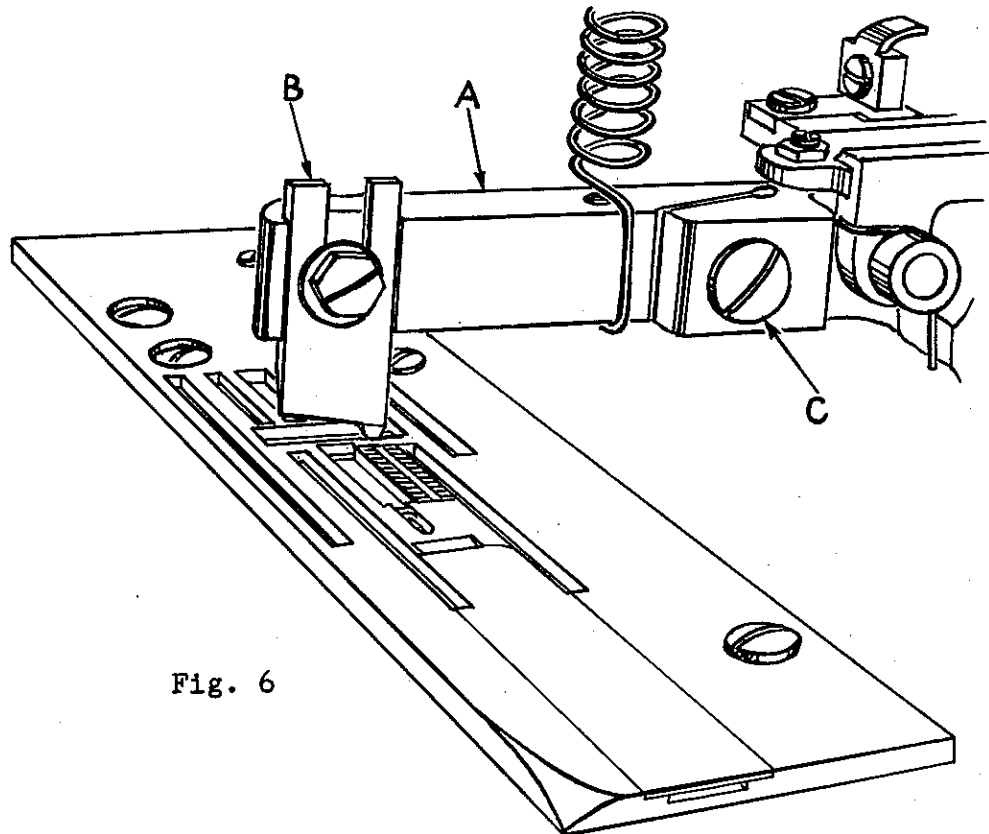
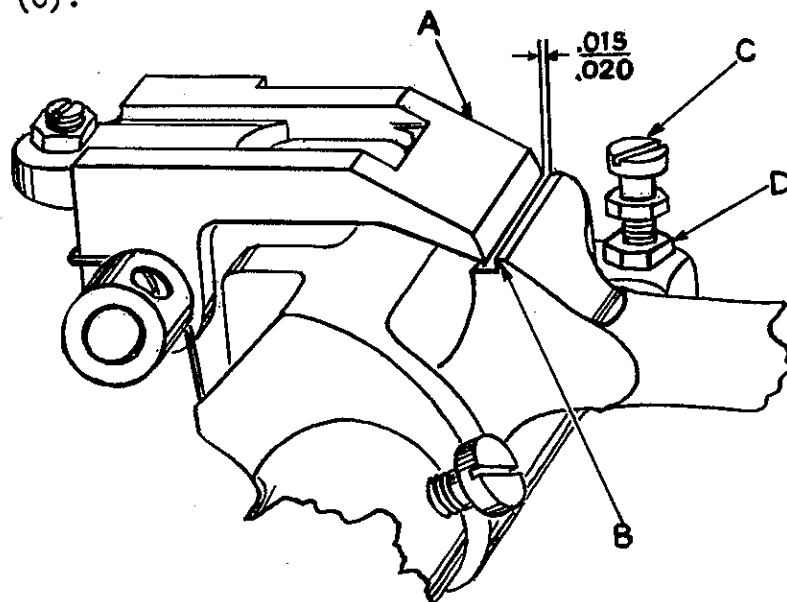

Fig. 6
Fig. 9
The upper tape cutter knife (B, Fig. 6) must be set after the tape cutter knife bar (A) has been correctly located. The knife should then be positioned so that the highest point of its cutting edge passes the cutting edge of the lower knife by $1/32$ inch when the knife bar is in its lowest position.
The two cutting edges must exert a pressure against one another. The amount of pressure should be such that it can be felt in the upper tape cutter knife bar when the knife bar is pressed down with the finger. The pressure is obtained by adjusting the screw (C, Fig. 6) in the upper tape cutter knife bar. Turning screw to the right adds pressure against lower knife, turning screw to the left acts the reverse.
After the upper tape cutter knife (B, Fig. 6) has been temporarily assembled in the upper tape cutter bar (A), set the bar height by manipulating adjusting screw (C, Fig. 9) so that .015 to .020 inch distance remains between the point of driving pawl (A, Fig. 9) and the point of ratchet lever (B)